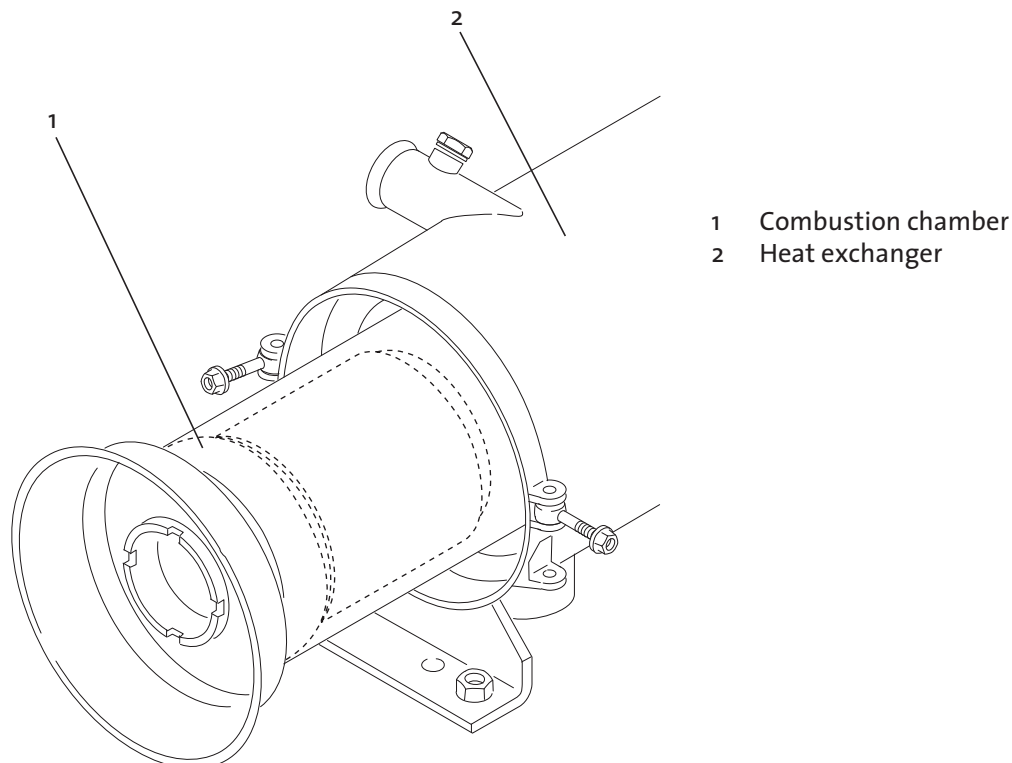

Figure 14: Heat Exchanger and Combustion Chamber, Replacement
4. Withdraw combustion chamber (1, Fig. 14) from heat exchanger (2).
5. Remove heat exchanger (2).
1. Slide combustion chamber (1, Fig. 14) fully into heat exchanger (2) against stop.
3. Withdraw combustion chamber (1, Fig. 14) from heat exchanger (2) and remove.